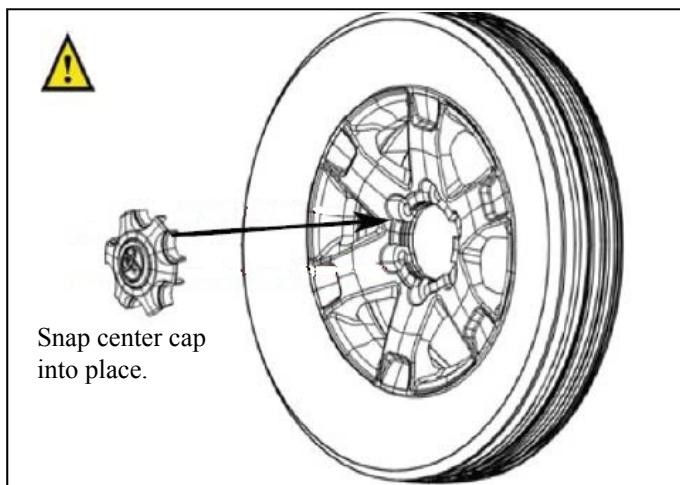

Figure 10
10. Install center cap by aligning cap and snap into place. See Figure 10.